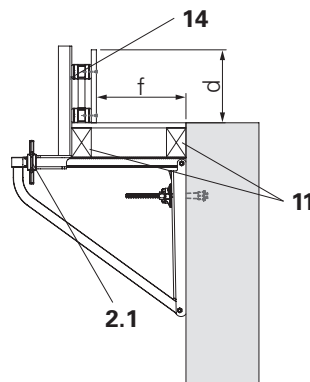

Fig. A2.04
- Mount the formwork and fix it in place with screws 5 x 20 (14). (Fig. A2.04)